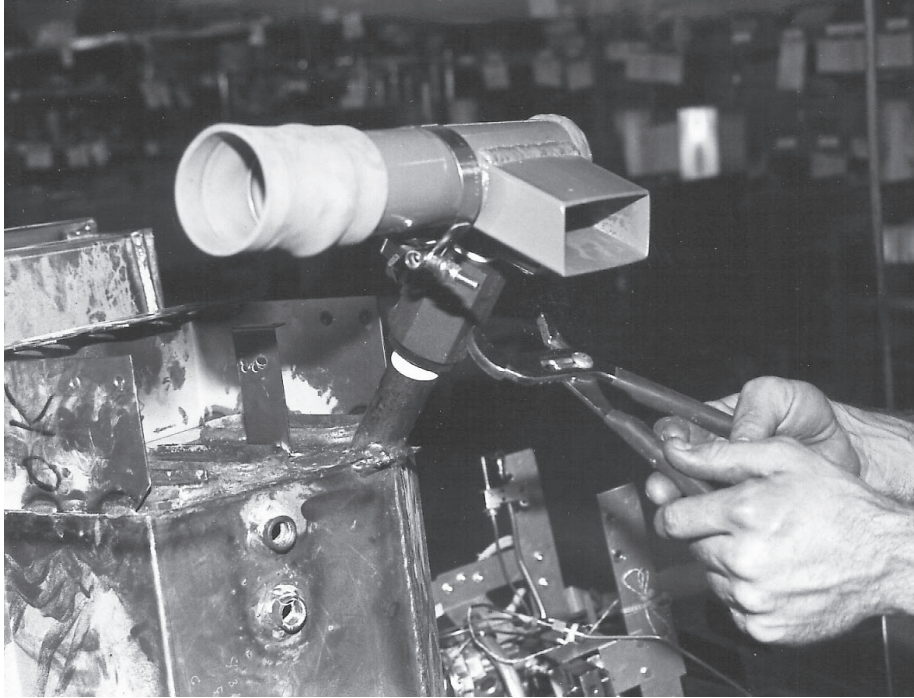

Fig. 95
33. With a pipe wrench remove the remove the drain valve and drain pipe assembly from the tank. (Fig 95)